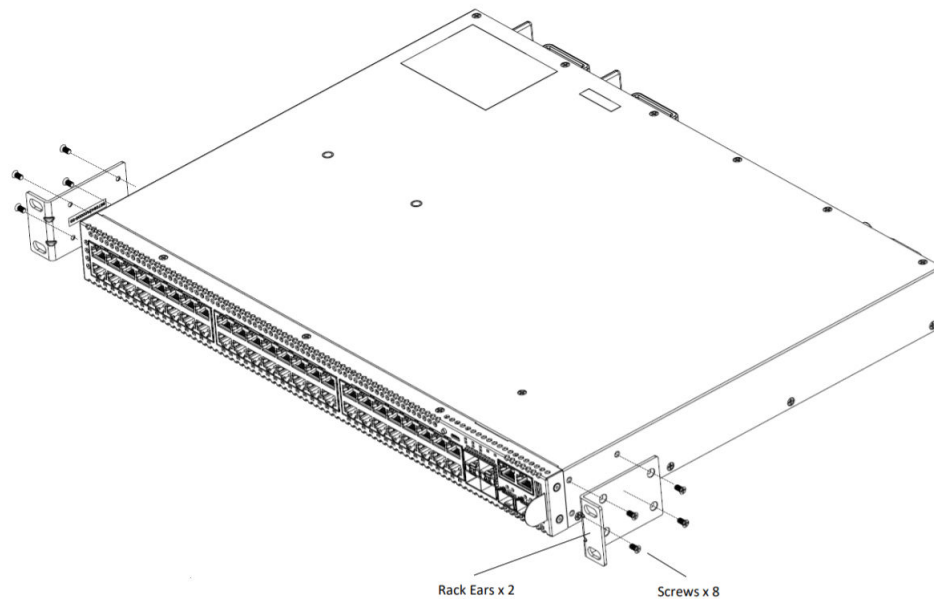

Figure 21: Front Mount: Attaching Short Mounting Brackets
- Figure 21 shows a front-mount configuration using a short mounting bracket.